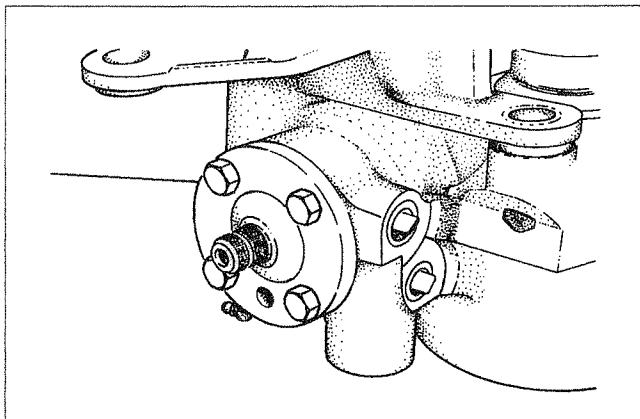

Figure 21
3. Install the bearing cap cover (Figure 21) on the steering gear taking care to align the plunger hole with the plunger in the gear.